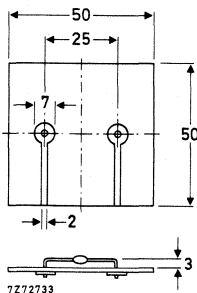

Fig. 2 Device mounted on a printed-circuit board.
2. Thermal resistance from junction to ambient; device mounted on an 1,5 mm thick epoxy-glass printed circuit board; Cu-thickness $> 40\ \mu\text{m}$; Fig. 2 (see "Thermal model")